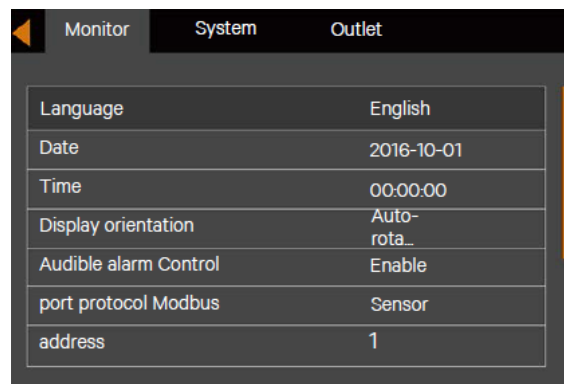

Figure 5-10 Language Selection
3. Press the  key to highlight the language, see Figure 5-10.